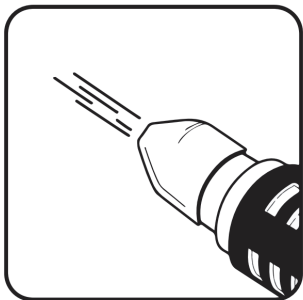

Fig 1
- **Concentration nozzle (See Fig. 1)**